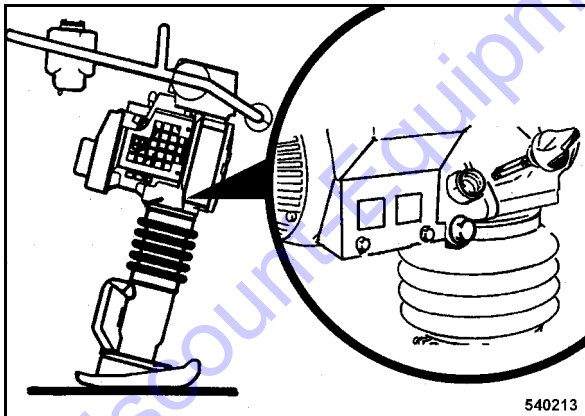

Fig. 36
- Remove the oil dipstick (Fig. 36).